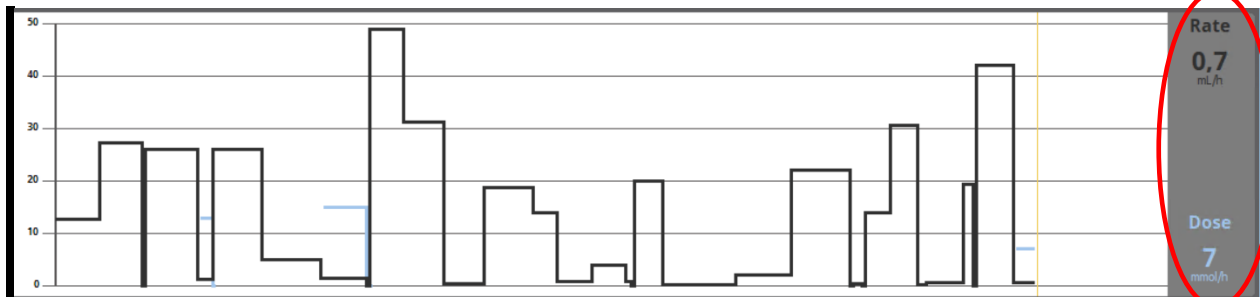

Fig 20
- The volume rate and the dose rate of the infused drug (Fig 20);
- If the pump is set to “Pharmacokinetic” mode, three lines are displayed on the chart, corresponding to: 1) the target value; 2) the plasmatic concentration; 3) the “effect site” concentration. The displays on the right show the three corresponding values (Fig 20);